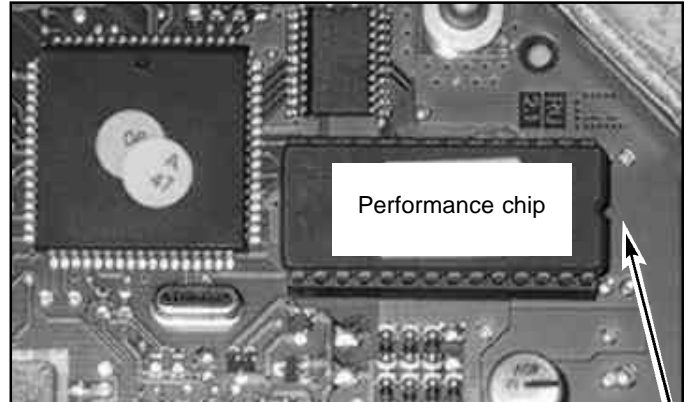

Figure 14
1. Position the Z4025 Performance Chip on the chip socket in the "Motronic" unit. **Figure 14.**
Note: Verify that the orientation is the same as the chip that was removed. **Figure 14.**